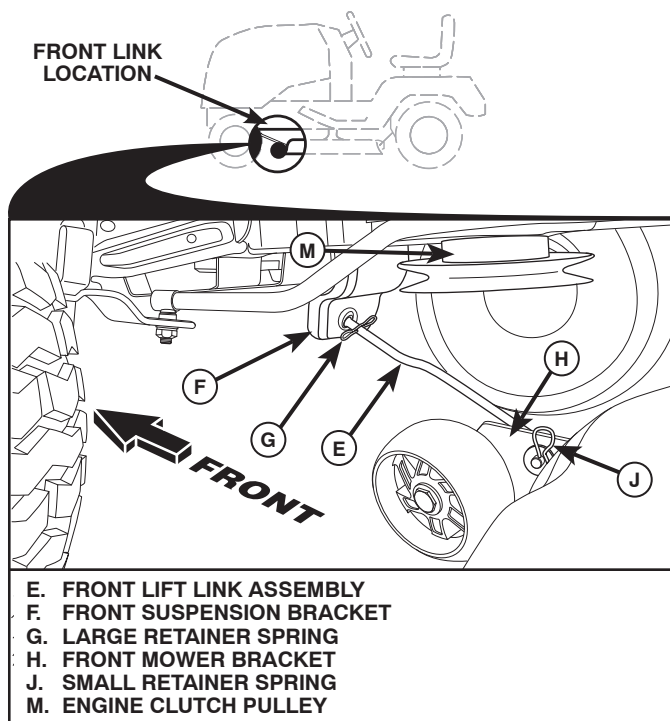

Fig. 13
## 8. ATTACH FRONT LINK (E) (See Fig. 13)
- From front of tractor, insert rod end of front link (E) through front hole in tractor front suspension bracket (F).
- Move to left side of mower and insert large retainer spring (G) through hole in front link (E) behind front suspension bracket (F).
- Insert other end of link (E) into hole in front mower bracket (H) and secure with washer and small retainer spring (J).